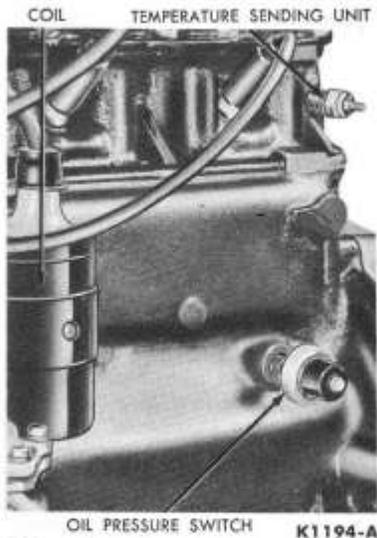
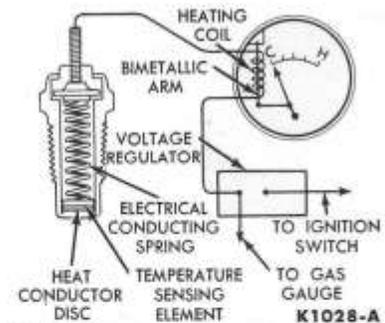

FIG. 20—Oil Pressure Switch and Temperature Sending Unit
FIG. 21—Temperature Gauge Circuit
The temperature indicator consists of a sending unit (Fig. 20) mounted in the cylinder head, and a remote register unit, (temperature gauge) mounted on the instrument panel (Fig. 19). The principle of operation is similar to the fuel gauge except that the resistance of the sending unit is varied by engine temperature. The temperature gauge circuit is shown in Fig. 21.
To test the oil pressure switch on the engine (Fig. 20), turn the ignition switch on, engine not running. The indicator light should come on. If the indicator light does not come on, short the terminal of the oil pressure switch unit to ground. If the light now comes on, the oil pressure switch is defective. If the light still does not come on, the bulb is burned out or the wires from the bulb to the ignition switch and oil pressure switch are defective.
1. Disconnect the oil pressure sending unit wire at the unit (Fig. 20).